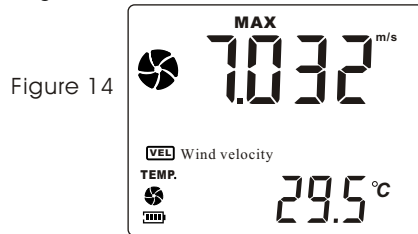

Figure 14
1. When measuring maximum value of wind velocity, a “MAX” will be shown on the upper LCD screen, as shown in figure 14: